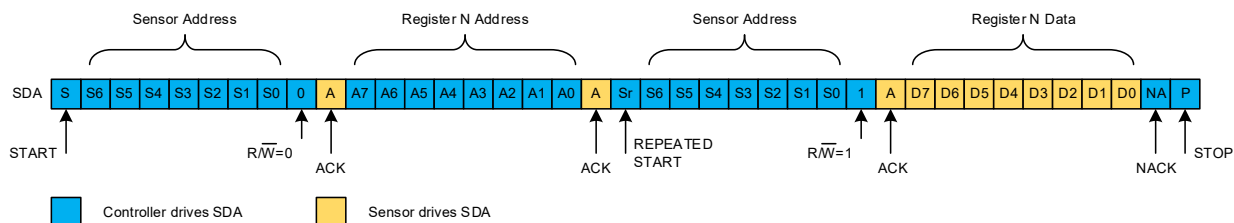

Figure 32: I²C Read Single
- In the fourth frame, the sensor sends the 8-bit register value (Figure 32).